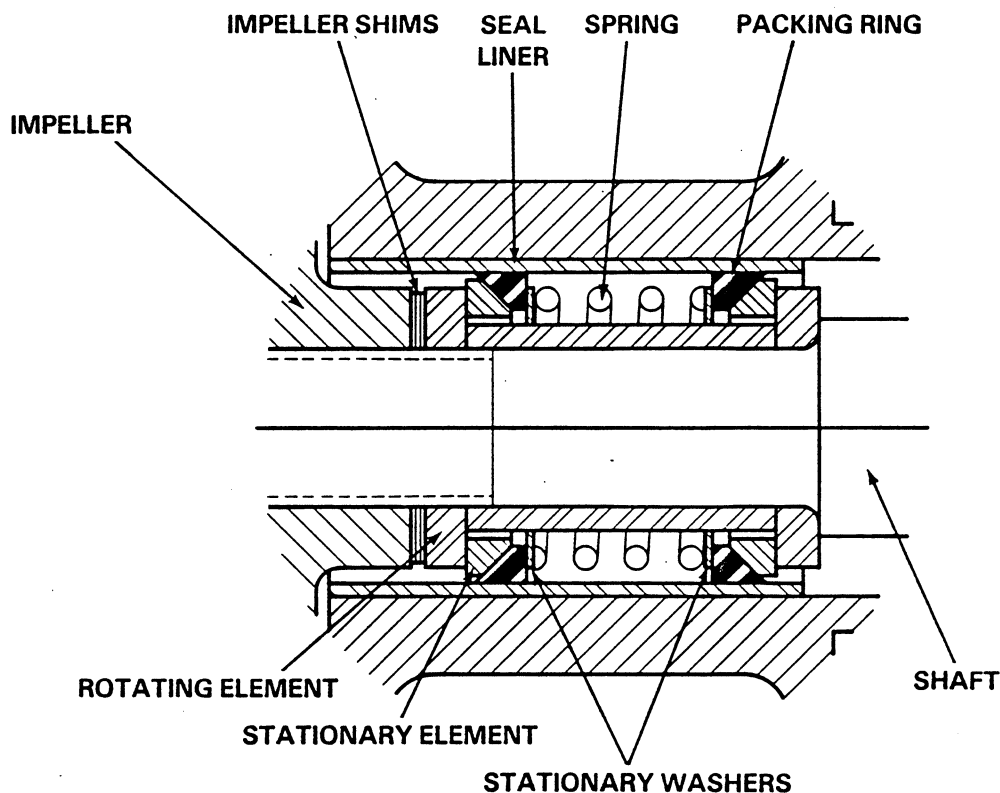

Figure 3. GS00625 Seal Assembly
To ease installation of the seal, lubricate the packing rings and seal liner (38) with water or a very **small** amount of oil, and apply a drop of light lubricating oil on the finished faces. Assemble the seal as follows, (see Figure 3).